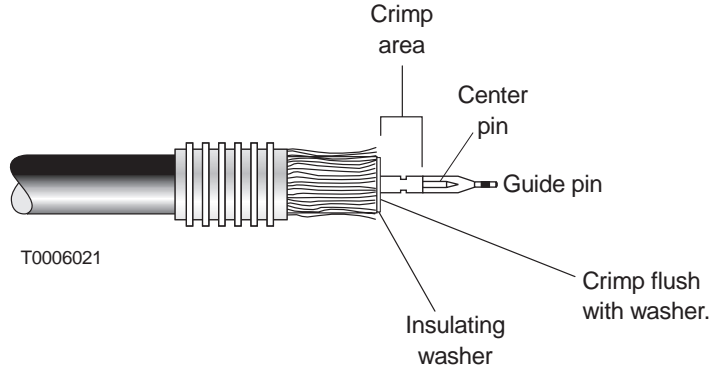

Figure C-7 Installing the insulator and center pin
2. Push the center pin (with guide pin attached) over the cable center conductor, as shown in figure C-7.
3. Use the HCT-231 crimp tool (figure C-8) to crimp the center pin flush with the washer, as shown in figure C-7. If the center pin is bent after crimping, cut the cable, re-strip it, and attach a new center pin.